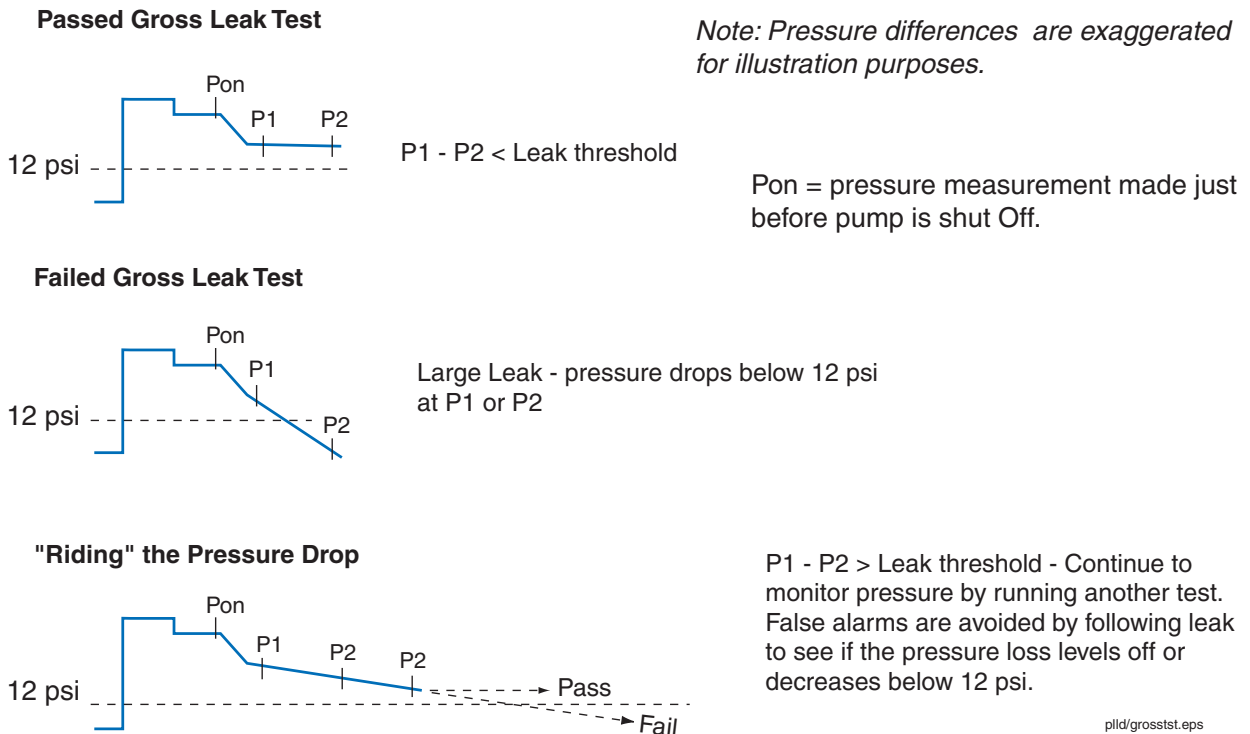

Figure 5. Gross Leak Test Diagram
1. After the pump is turned Off, the test waits time T1 for the line pressure to vent down to the relief valve pressure of approximately 22 psi. At this time the reference pressure, P1, is measured (see Figure 5). If P1 is below 12 psi it is assumed there is a large leak and a retest is run to confirm the leak. If it fails yet again, a "Gross Test Fail" alarm is posted.